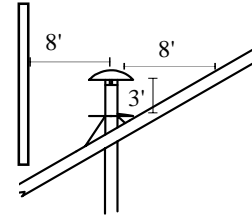

Figure 6
1. The vent system must terminate at least 3 feet and no more than 6 feet above the roof line, unless it is supported by a wall or similar structure, and no closer than 8 feet from any wall or vertical structure (figure 6).